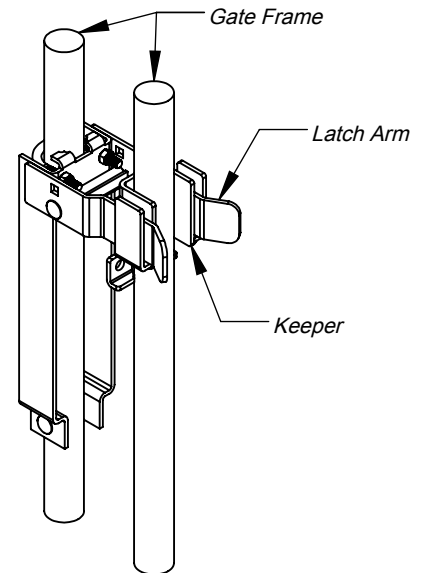

Figure 6
6. With the latch installed (see other side), the gates in the closed position and the latch in the latched position, hold the keeper in position making sure the latch arms are completely engaged by the keeper (Figure 6). Mark the position of the keeper.